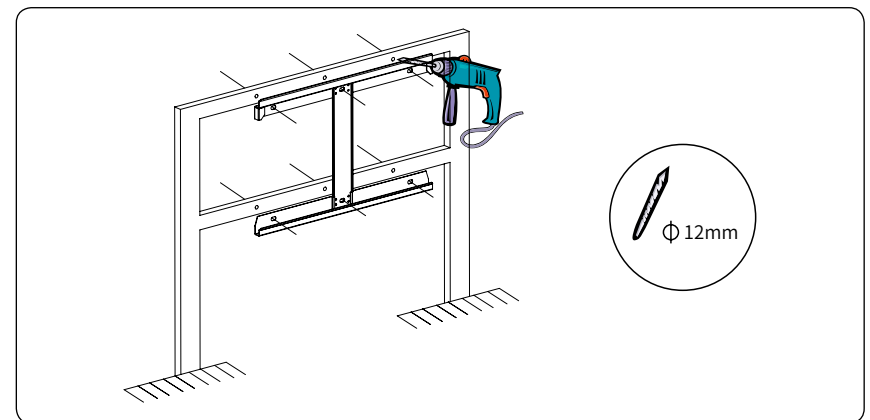

Figure 4-5 Mark the hole position
- 2) Use an electrical drill with 12mm diameter bit to drill 6 holes on the installation bracket. See Figure 4-5 for details: